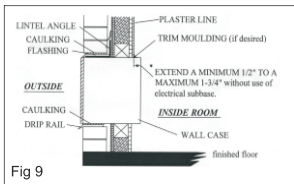

Fig 9
Weather proofing gaps between the exterior wall and the sleeve with caulking or other equivalent weather proofing material (Fig 9)
- If the sleeve is being installed in a wall where the recess is 3" or less, a flashing must be installed under the sleeve and extend up 2" on each side. The flashing must include a drip rail as shown above Fig 9.